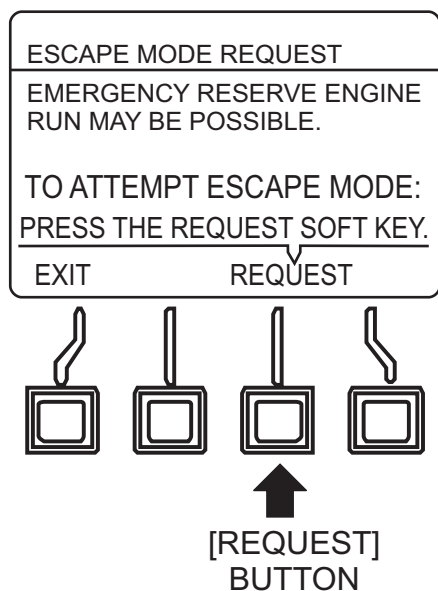

Figure 82. Escape Mode (Request Button)
- Press the **[REQUEST]** button (Figure 82) to send "Escape Mode Request" signal to ECM.